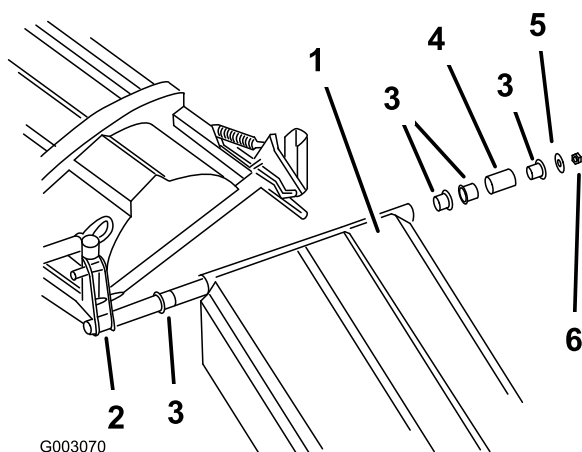

Figure 7
6. Install the left and right boom to the center boom as shown in Figure 7